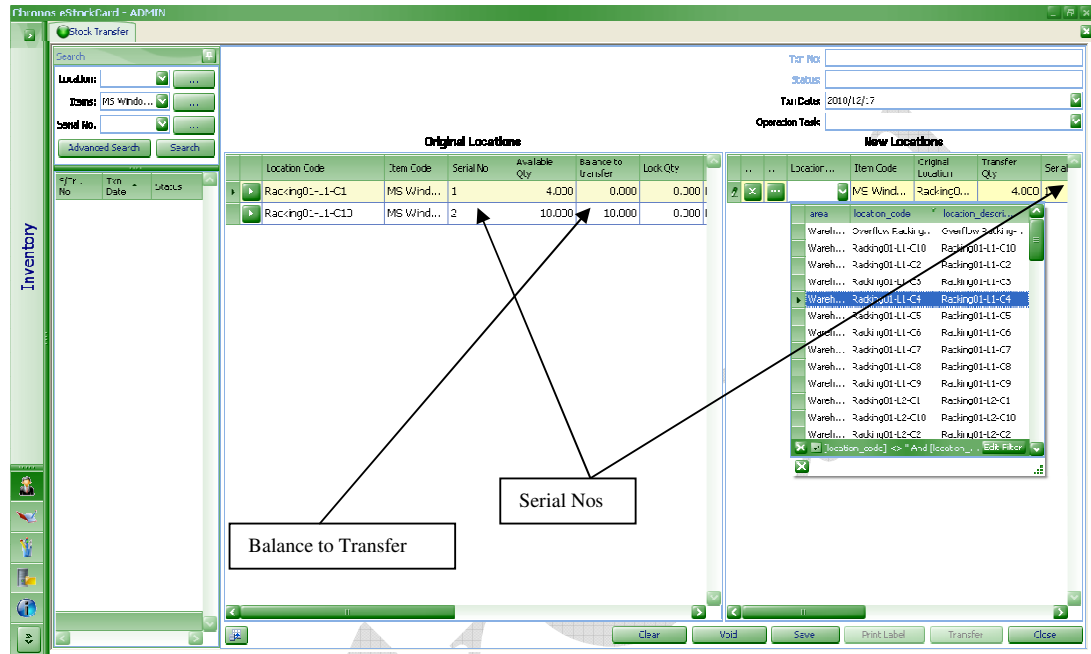

Fig. 72
4.1. From the screen above, notice that the balance to transfer shows the quantity 0 as by default all the quantity will be transfer to the new location. The serial no show that row of item is transfer to the new location. (Fig. 72)